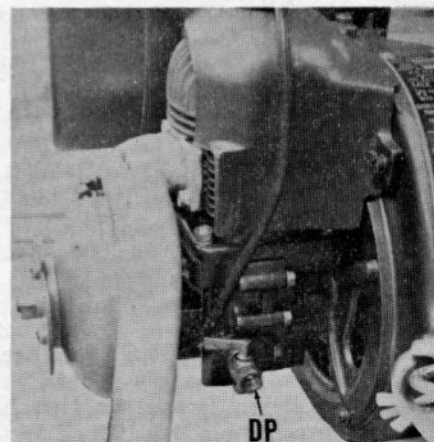
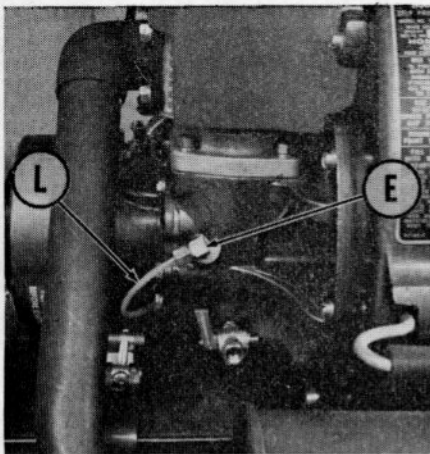
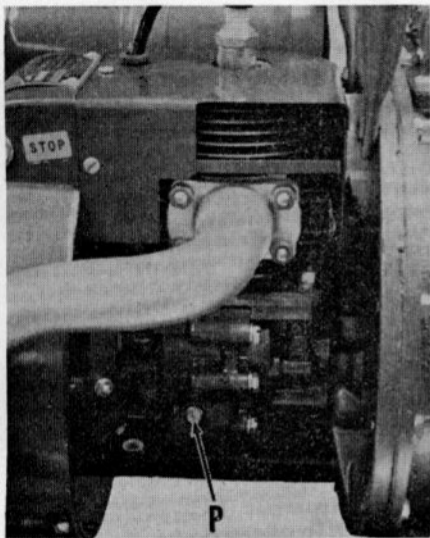

Fig. HL46—Governor adjusting screw (see Fig. HL45) is accessible on model 35 engines after removing drain petcock (DP).
Fig. HL47—On engine models 8 and 9, governor adjusting screw (see Fig. HL45) is accessible after removing pulse line (L) and elbow (E).
Fig. HL48—On engine model 20, governor adjusting screw (see Fig. HL45) is accessible after removing slotted head plug (P).
First, bring engine to normal operating temperature and adjust carburetor for highest speed and best performance obtainable. Then, on model 35 engine, remove drain petcock (DP—Fig. HL46) on muffler side of front-half crankcase; on models 8, 9 and 9-A, disconnect pulse line (L—Fig. HL47) (above drain petcock) and unscrew the 90° elbow (E); or, on model 20 engine, remove slotted head brass plug (P—Fig. HL48) in front half of crankcase.